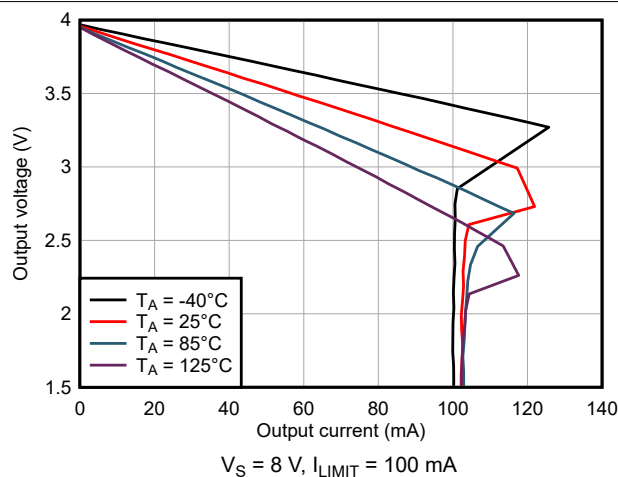

Figure 6-19. Output Voltage vs Output Sourcing Current
(3) Proper output swing headroom is necessary to maintain current limit accuracy; see Figure 6-19 to Figure 6-34.